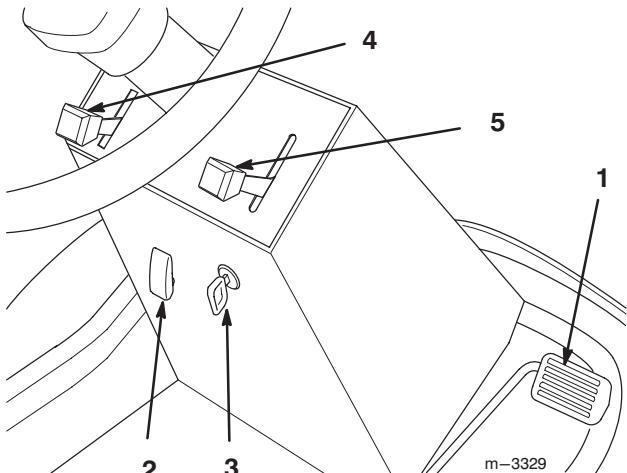

Figure 14
2. Release pressure on the traction pedal to stop movement (Fig. 14).
3. To engage lift cover and move the PTO switch to the "ON" position (Fig. 14).
1. Closing the cover moves the PTO switch to the "OFF" position (Fig. 14).